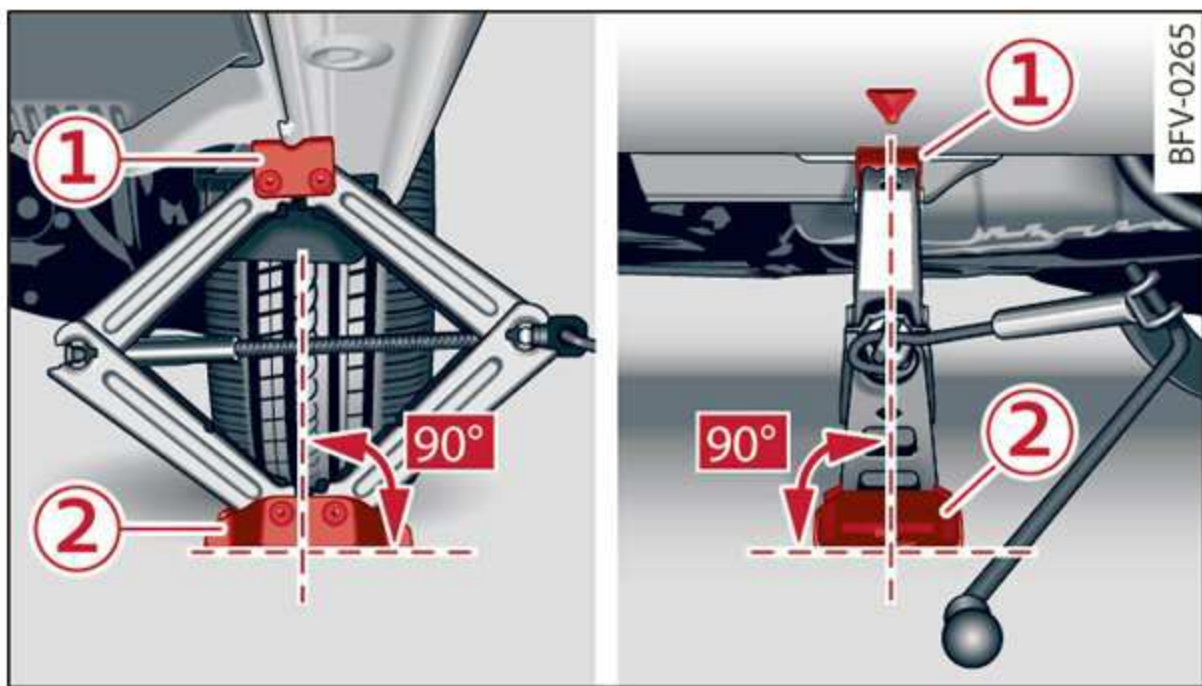

Fig. 194 Sill: positioning the vehicle jack
- ▶ Turn the vehicle jack located under the mounting point on the sill to raise the jack until its arm ① ⇒ *fig. 194* is located under the designated mounting point.
- ▶ Align the vehicle jack so the arm ① engages in the designated mounting point in the side sill and the base ② lies flat on the ground. The base ② must be directly under the mounting point ①.